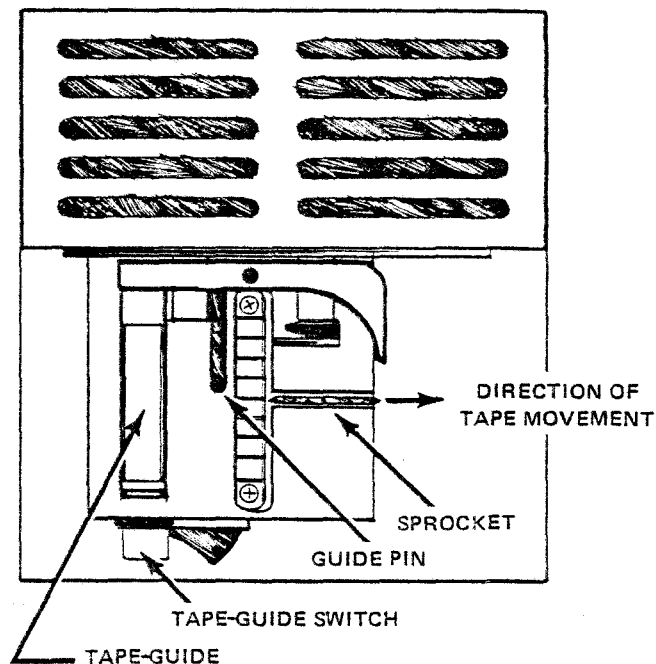

Figure 3-1. Read Head of the Paper Tape Reader
Running the Serial Paper Tape Reader is simple. After proper connections have been made and the Baud rate has been set, load tape into the reader according to Figure 3-1 and steps a-d, below.
The sprocket pulls the tape over the tape guide. Be sure that the tape is inserted so that it travels in the direction shown in Figure 3-1.
- a. Reinsert the leader of the tape in the Read Head (Figure 3-1).